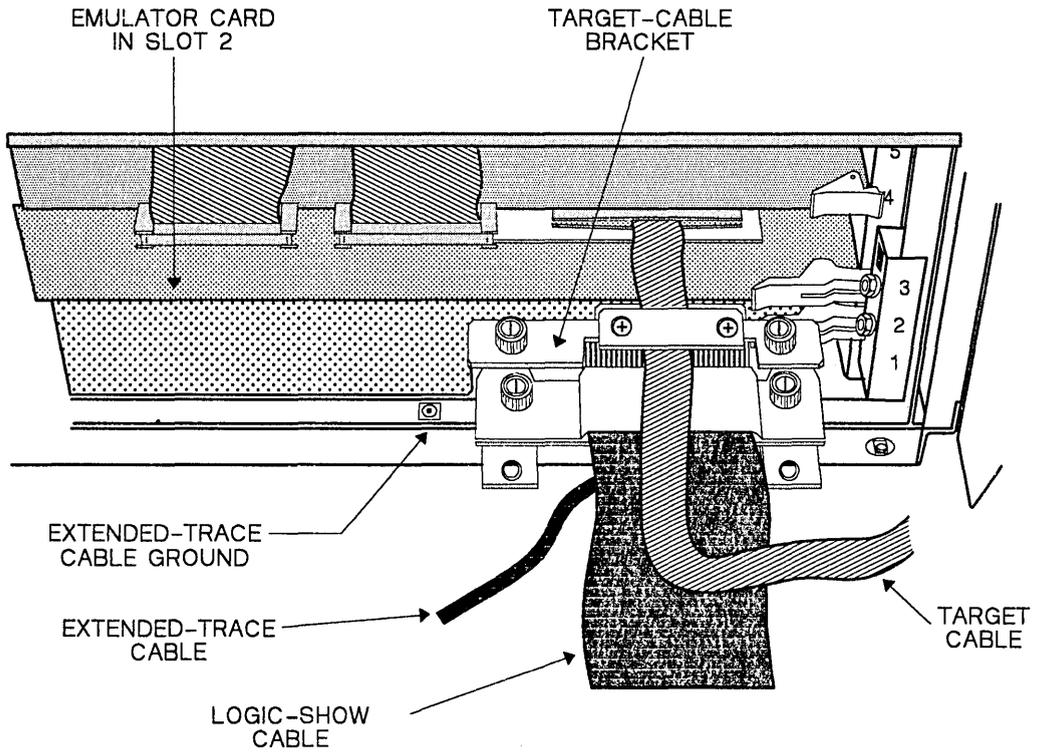

Figure 11-10. XDS/22 with Breakpoint/Trace and Emulator Cards Installed
- 5) Figure 11-10 shows the completely configured chassis.